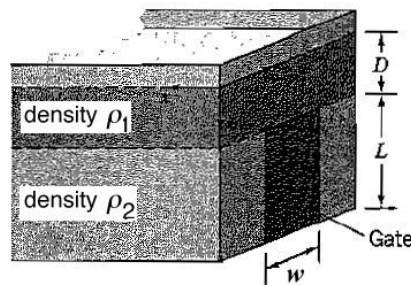

Figure P2.29
2.29 A rectangular gate is located in a dam wall as shown in Figure P2.29. The reservoir is filled with a heavy fluid of density ρ_2 to a height equal to the height of the gate, and topped with a lighter fluid of density ρ_1 .